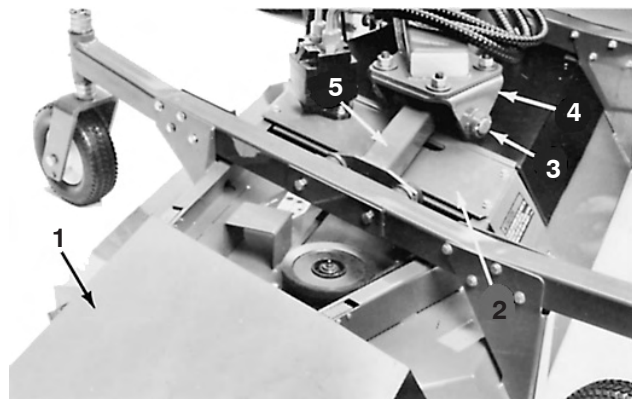

Figure 74
3. Remove flange head screws securing gearbox plate to deck. To separate plate and drive motor assembly from deck, rotate plate end toward traction unit (Fig. 74). Tip plate, motor and pulley assembly on its side and remove from deck. Be careful not to bend, twist, kink or damage flexible hydraulic lines.
4. Remove locknut securing deck pivot shaft into deck clevis and lift bar (Fig. 74).